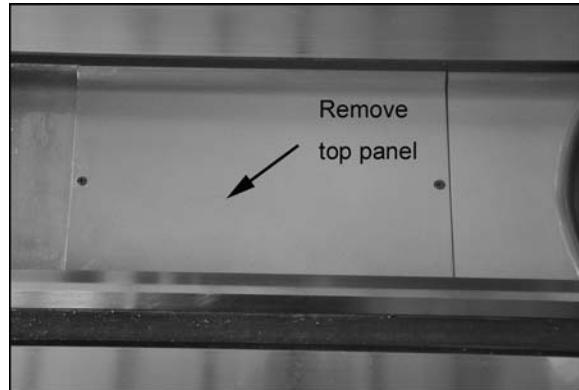

Figure 19 – Coolant pump access (GH-26120ZH)
- 1) Remove top panel inside the bed (Figure 19).